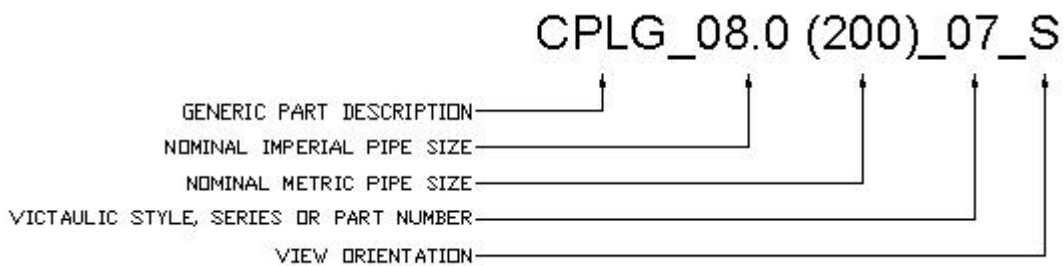

Fig. 1
The Vic Blocks 2D file name consists of four parts; a generic description, the size, the Victaulic product style, series or part number and the viewpoint orientation. The file names have been created to help determine the appropriate block for insertion. A few examples of generic descriptions are; valve, elbow, cplg (coupling). Metric equivalents are also added in the naming convention. These coincide with the imperial nominal measurements and are in parenthesis following a nominal imperial size. The Victaulic product style, series or part number follows next. The view orientation could be Front (F), Side (S) or Top (T). An example of this naming convention is shown in Fig. 1.